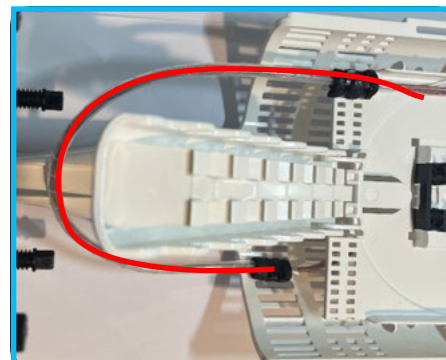

Figure 39
6. Route the spiral wrapped fibre to the first tray. Pass the fibres behind the splice tray spine [\[figure 39\]](#).